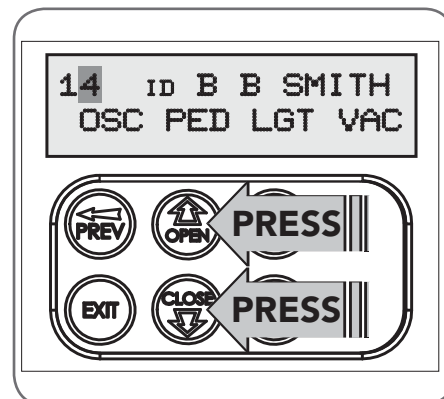

Fig G.3
- Press the UP or DOWN arrows to navigate through the list (Fig. G.3).